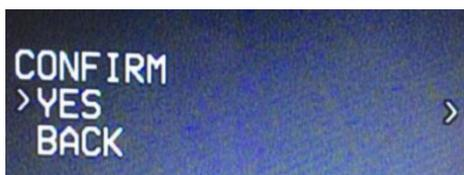

Figure 5
4. In the menu of VTX SA, we can configure the BAND, CHAN and POWER. Pulling the PITCH stick to move cursor up and down to choose VTX options that need setting. While pulling ROLL stick left and right to change the corresponding parameters. Once the parameters is set, moving the cursor to "SET", then turn ROLL stick right to enter "SET" and choose "YES" and turn ROLL stick right to save setting parameters, as shown in Figure 5.